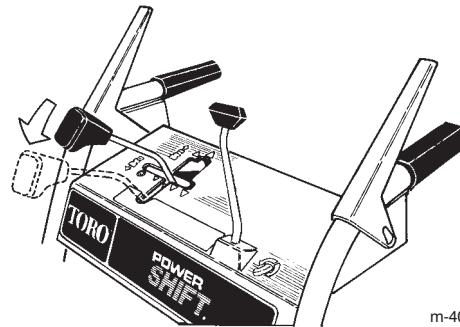

Figure 11
8. Manually move the wheels to the *rear Power Shift* position by lifting up on the handgrips and moving the shift control fully forward (Fig. 11).